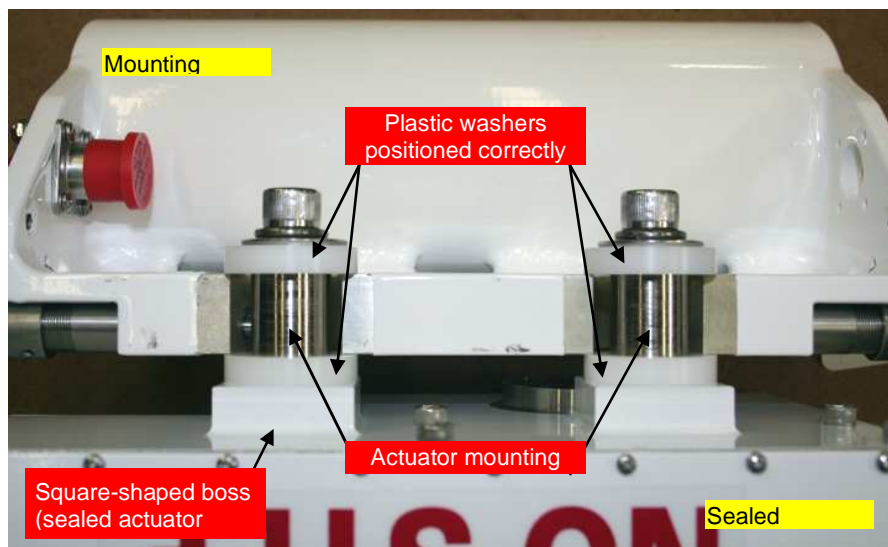

Figure 22. Aligning the actuator (sealed actuator shown)
4. Place the actuator on the mounting bracket as shown in Figure 22. One plastic washer must be positioned on each side of the bracket, as shown. Note that the sealed actuator is shown in the figure; the unsealed actuator does not have the square-shaped boss, shown.